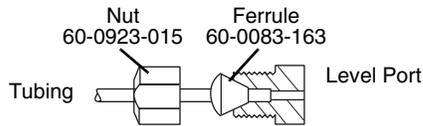

Figure 2-10 Level tubing connection with nut and ferrule
7. Connect the air line to the A LEVEL port (refer to Figure 2-10):